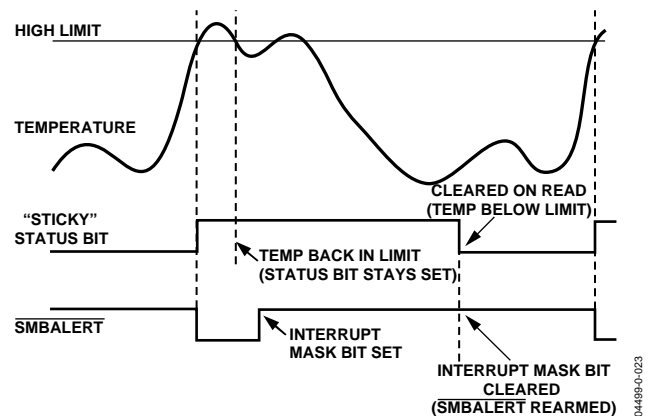

Figure 29. How Masking the Interrupt Source Affects  $\overline{\text{SMBALERT}}$  Output
7. Periodically poll the status registers. If the interrupt status bit has cleared, reset the corresponding interrupt mask bit to 0. This causes the  $\overline{\text{SMBALERT}}$  output and status bits to behave as shown in Figure 29.